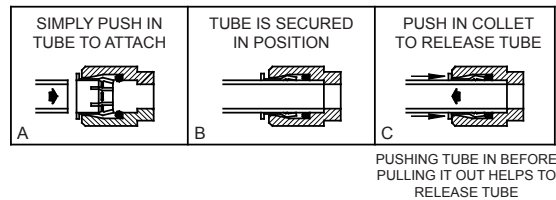

Figure 12 – Quick Connect Fittings
3. **Make water supply connections.** Inlet port is marked on the chiller (1/4" O.D. copper tube). Bend the copper tube (provided) at an appropriate length from the chiller to opening in frame. Install the in-line strainer (provided with chiller) by pushing it in until it reaches a positive stop, approximately 3/4" (19mm) on the marked chiller inlet port (See Figs. 3) (Refer to Fig. 12 on page 7 for details on assembling quick connect fittings). Attach an unplated and deburred copper water inlet line and a service stop (not provided) to the chiller. Turn on the water supply and flush the line thoroughly.
Actuation of Quick Connect Water Fittings: Cooler is provided with lead-free connectors which utilize an o-ring water seal. To remove tubing from the fitting, relieve water pressure, push in on the gray collar while pulling on the tubing. (See Figure 12) To insert tubing, push tube straight into fitting until it reaches a positive stop approximately 3/4”.